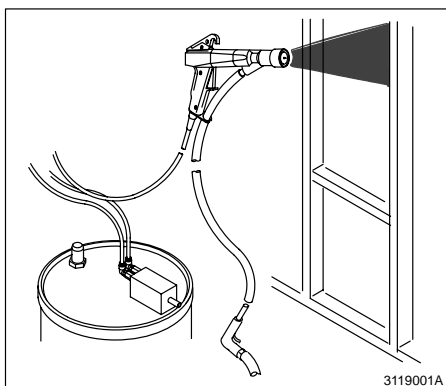

Fig. 1
1. See Figure 1. Disconnect the powder feed hose from the pump.